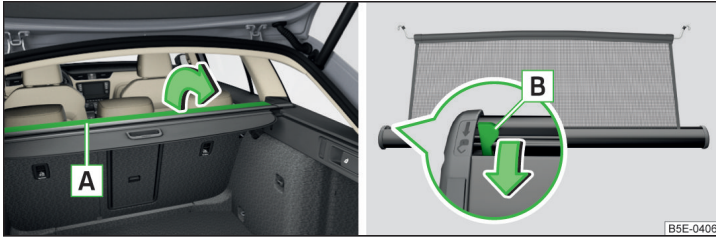

Fig. 146 Open part of the roll-up luggage compartment cover / release lever
- › Fold out part **A** of the roll-up luggage compartment cover in the direction of arrow » Fig. 146.
- › Fold back part **A** of the roll-up luggage compartment cover in the opposite direction of the arrow » Fig. 146.
If the net partition blocks when pulling it out, push the release lever **B** in the direction of the arrow » Fig. 146.